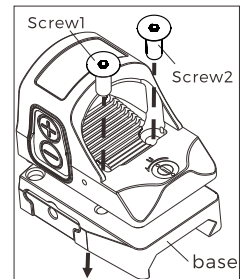

Fig 6-1
1. Remove the two screws shown in the figure 6-1 and remove the rail mount from the HE507C-GR.